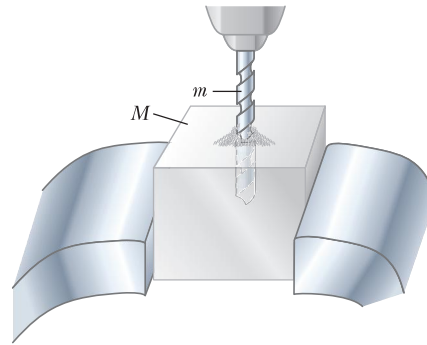

Figure P20.12
12. An electric drill with a steel drill bit of mass  $m = 27.0\text{ g}$  and diameter  $0.635\text{ cm}$  is used to drill into a cubical steel block of mass  $M = 240\text{ g}$ . Assume steel has the same properties as iron. The cutting process can be modeled as happening at one point on the circumference of the bit. This point moves in a helix at constant tangential speed  $40.0\text{ m/s}$  and exerts a force of constant magnitude  $3.20\text{ N}$  on the block. As shown in Figure P20.12, a groove in the bit carries the chips up to the top of the block, where they form a pile around the hole. The drill is turned on and drills into the block for a time interval of  $15.0\text{ s}$ . Let’s assume this time interval is long enough for conduction within the steel to bring it all to a uniform temperature. Furthermore, assume the steel objects lose a negligible amount of energy by conduction, convection, and radiation into their environment. (a) Suppose the drill bit cuts three-quarters of the way through the block during  $15.0\text{ s}$ . Find the temperature change of the whole quantity of steel. (b) **What If?** Now suppose the drill bit is dull and cuts only one-eighth of the way through the block in  $15.0\text{ s}$ . Identify the temperature change of the whole quantity